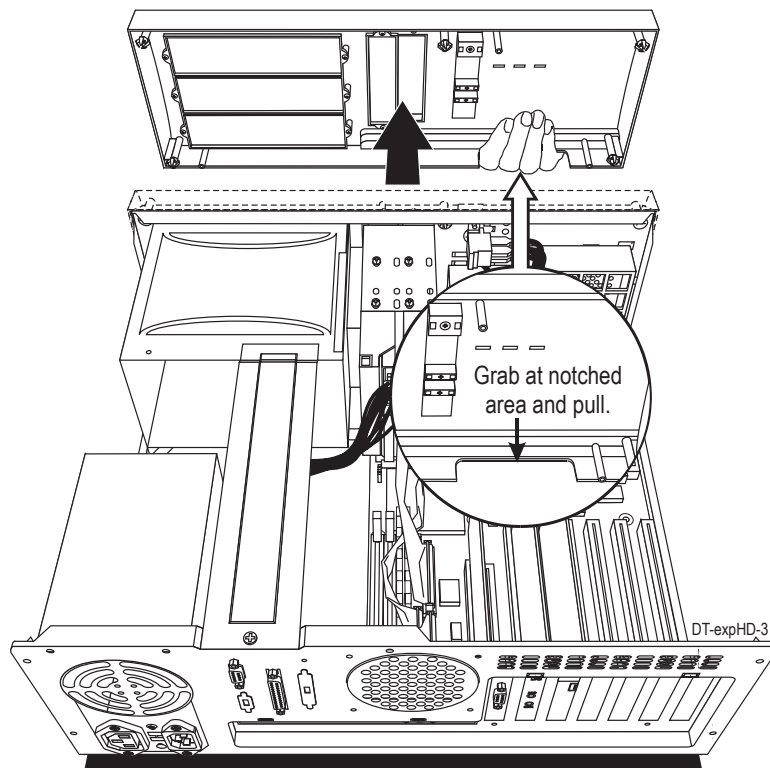
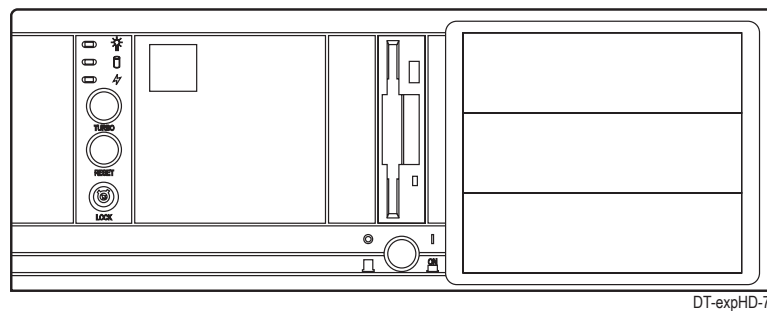

Figure 3
Figure 5
- Grab the notch located beneath the front panel (on the end where the logo is located) and firmly pull the front panel away from the chassis. See Figure 3.
12. If your cabinet has a front panel that is secured with spring clips (as shown in Figure 3), then go to step 13. If your cabinet has a front panel like Figure 5, then perform the following steps:
- Use Figure 3 as a reference for panel location. To re-attach the front panel to the cabinet, simply push the spring clips into the holes of the cabinet until the clips snap and lock the front panel in place.